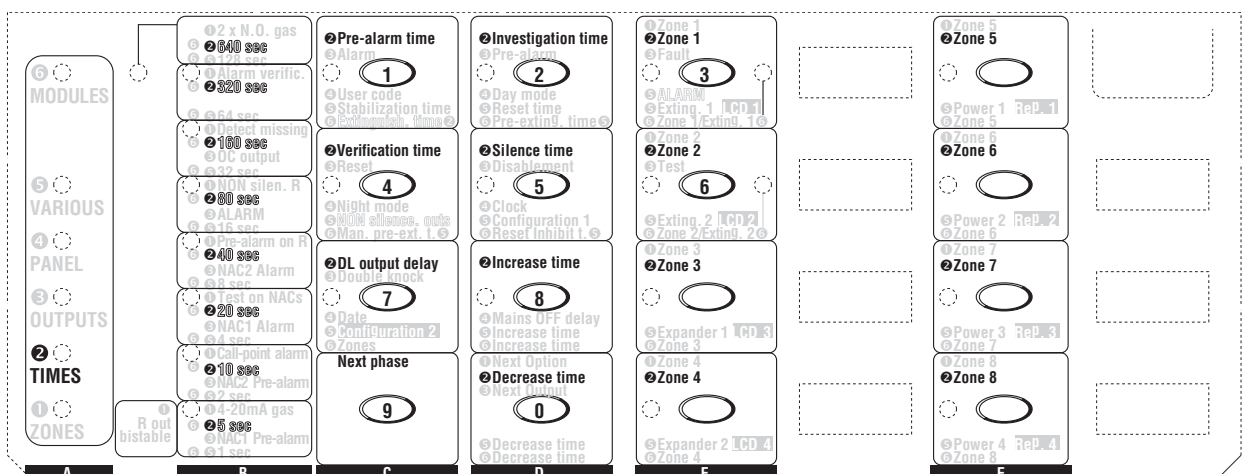

Figure 31 The “Times” Programming Phase
The **TIMES** LED will blink to indicate that the system is ready to start the programming procedure. During this phase, the keys and LEDs will operate in accordance with the options preceded by ❷ in the panes on the Programming Overlay, see Figure 31.
4. Go back to step 1 to program another Time option **or**, press the **Next phase** key 9 to go to the following Programming Phase (**Outputs** — column A).